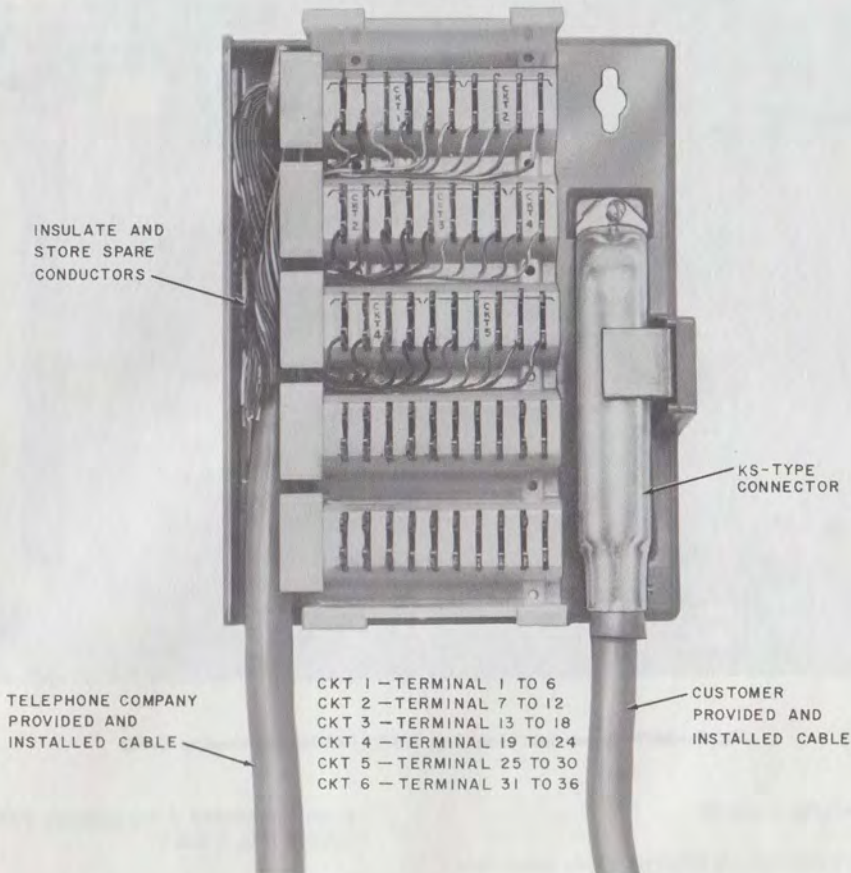

Fig. 3—66E3-25 Interface Connecting Block
- Block, Connecting, 66E3-25 (Fig. 3, as required)
numbers or lead designations should be stenciled on the connecting block (see Fig. 3 and Table C). The CP equipment must be located so that maximum loop resistance of the CA, CS leads does not exceed 50 ohms measured at the interface connecting block.
**3.10** The customer must terminate the CP equipment to the KS-16672, List 3 connector on the 66E3-25 connecting block (Fig. 3) using an Amphenol No. 57-10500-7 plug, Cinch No. 223-32-50-023 plug, or equivalent.
Fig. 3 and Table D or E). The CP equipment must be located so that maximum loop resistance of the CA, CS leads does not exceed 50 ohms measured at the interface connecting block.
**3.17** The customer must terminate the CP equipment to the KS-16672, List 3 connector on the 66E3-25 connecting block (Fig. 3) using an
**5.02** Open circuit at 66E3-25 interface connecting block by removing the customer plug from the KS-type connector (Fig. 3). Perform the following tests.